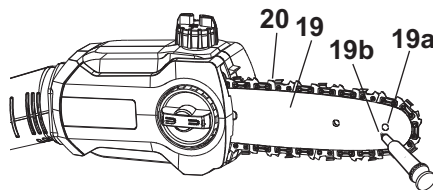

Fig. 43
**NOTE:** It is not necessary to remove the saw chain (20) to lubricate the sprocket wheel (19a). Lubrication can be done on the job.
2. Using a disposable lube gun, insert the needle nose into the lubrication hole (19b) (Fig. 43) and inject grease until it appears at the outside edge of the sprocket wheel (19a).